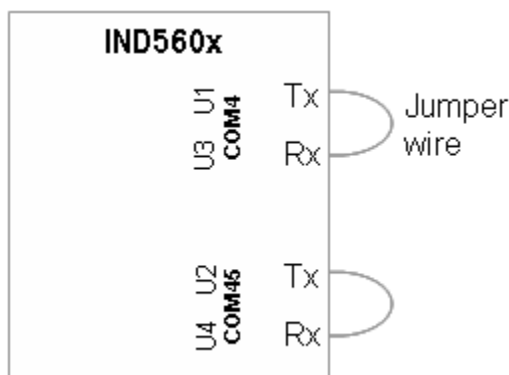
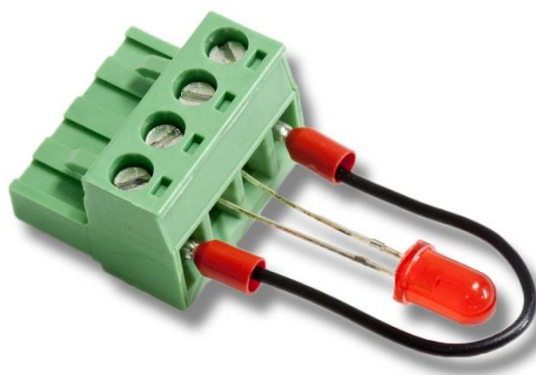

Figure 4-10: Jumper Wire Between Transmit and Receive Terminals on COM4 and COM5 of Fiber Optic Interface
Figure 4-11: Loopback Test Fixture for IND560x I.S. Current Loop Interface
1. Place a jumper fiber optic cable between the transmit and the receive terminals of the fiber optic interface on the port being tested as shown in Figure 4-10.
1. Place the current loop test plug (Figure 4-11) on the current loop port being tested as shown in Figure 4-10.